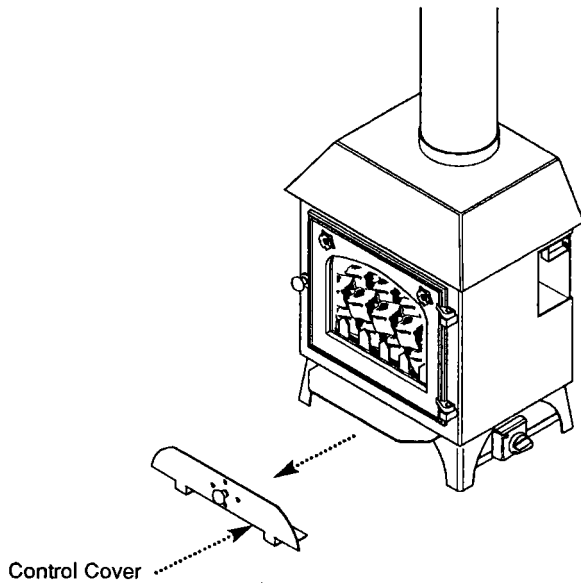

Fig. 25
4. When ordering spare parts please quote appliance name and serial number. These can be found on the data badge which is located by removing the controls cover (Fig. 25). The badge is behind the cover and fixed to the burner.